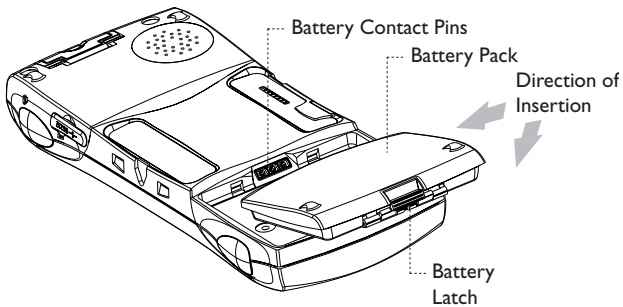

Figure 2.6 Battery Insertion
Before you can use the netpad you must fit the battery—slide it into place until it clicks, as shown in Figure 2.6 on page 25.
2. Press on the battery pack latch to remove it (see Figure 2.6 on page 25).